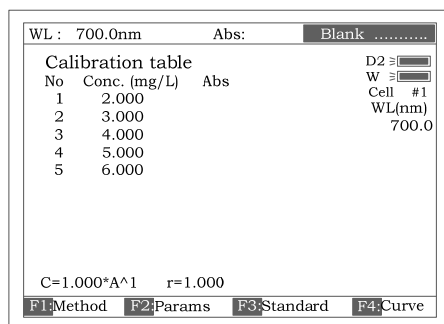

Fig 32
Press [ESC/STOP] to finish inputting and to exit Fig 32.
3.3.2 Push the blank cuvette into the reference light path and main light path, press [**0Abs/%100T**], the instrument will step to the wavelength and blank. See Fig 32.